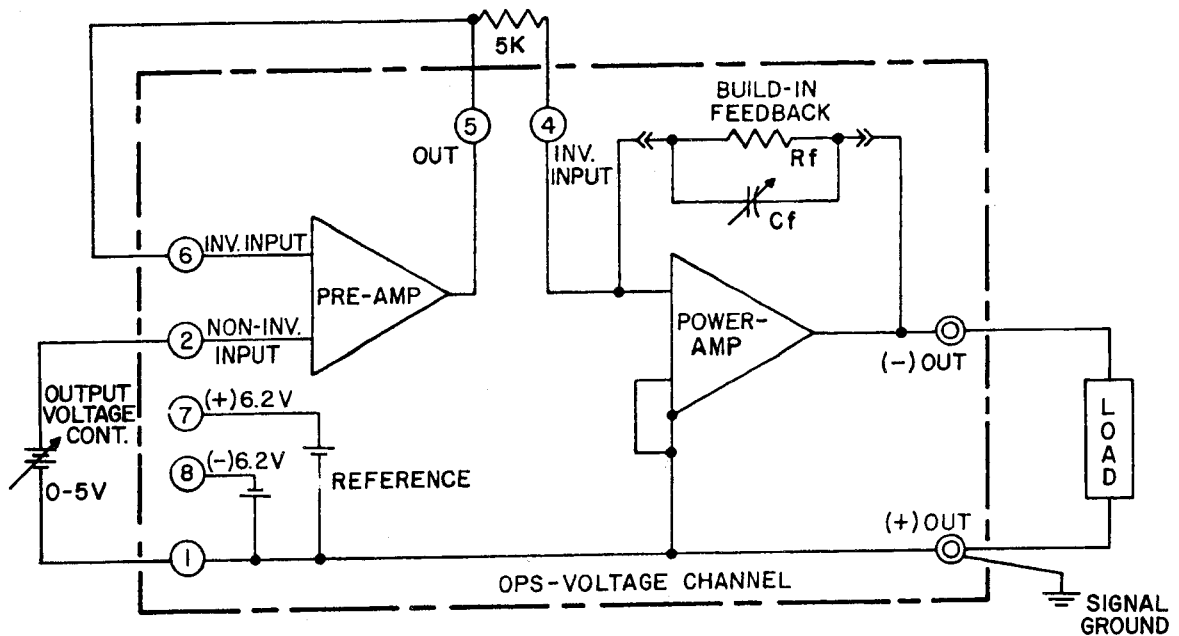

FIG. 3-3 EQUIVALENT DIAGRAM, OPS VOLTAGE CONTROL CHANNEL CONNECTED FOR VOLTAGE PROGRAMMING VIA THE PREAMPLIFIER.
3-10 VOLTAGE PROGRAMMING VIA THE PREAMPLIFIER. Since, in this control method, the external control voltage is connected to the noninverting input of the PREAMPLIFIER, the input impedance is very high. The external control voltage source, therefore, has to supply only the small preamplifier bias current (in the nanoampere range). The PREAMPLIFIER is connected (by means of strapping of the PROGRAMMING TERMINALS) as a "voltage repeater" and its output is connected to the inverting input of the POWER AMPLIFIER. (See FIG. 3-3.)
- 3-11 As shown in FIG. 3-3, the PREAMPLIFIER output supplies the required 1 milliampere control current via the series input resistor ( $R_i$ ) to the inverting input of the POWER AMPLIFIER, which responds as expressed by equation (1). A 0–5 volt control voltage and a 5 k ohm input resistor ( $R_i$ ) will, therefore, control the OPS output voltage over its full range.